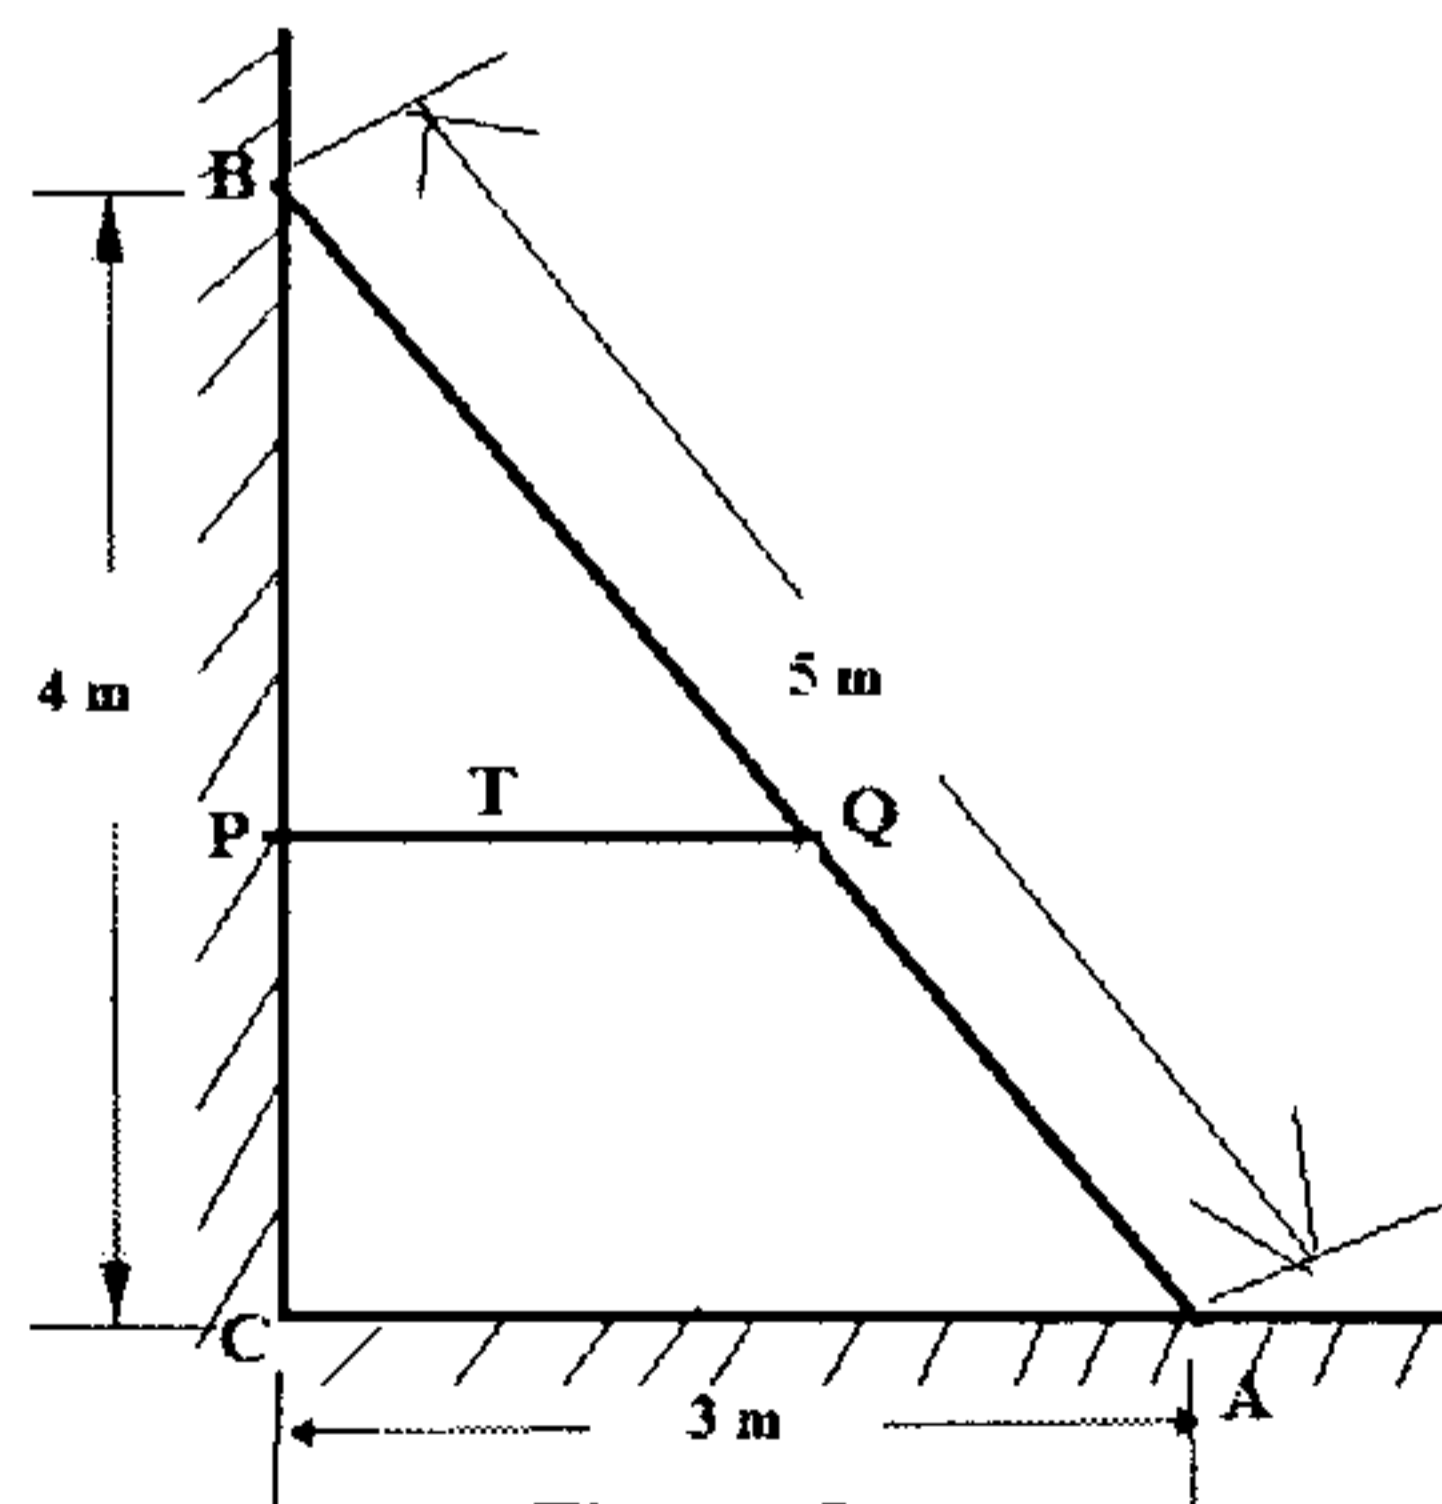

Figure : 5
6. A uniform ladder of 5 m long weighing 200 N rests on a smooth floor at A and against a smooth wall at B as shown in Figure:5. A horizontal rope PQ prevents the ladder from slipping. Using the method of virtual work, determine the tension in the rope.